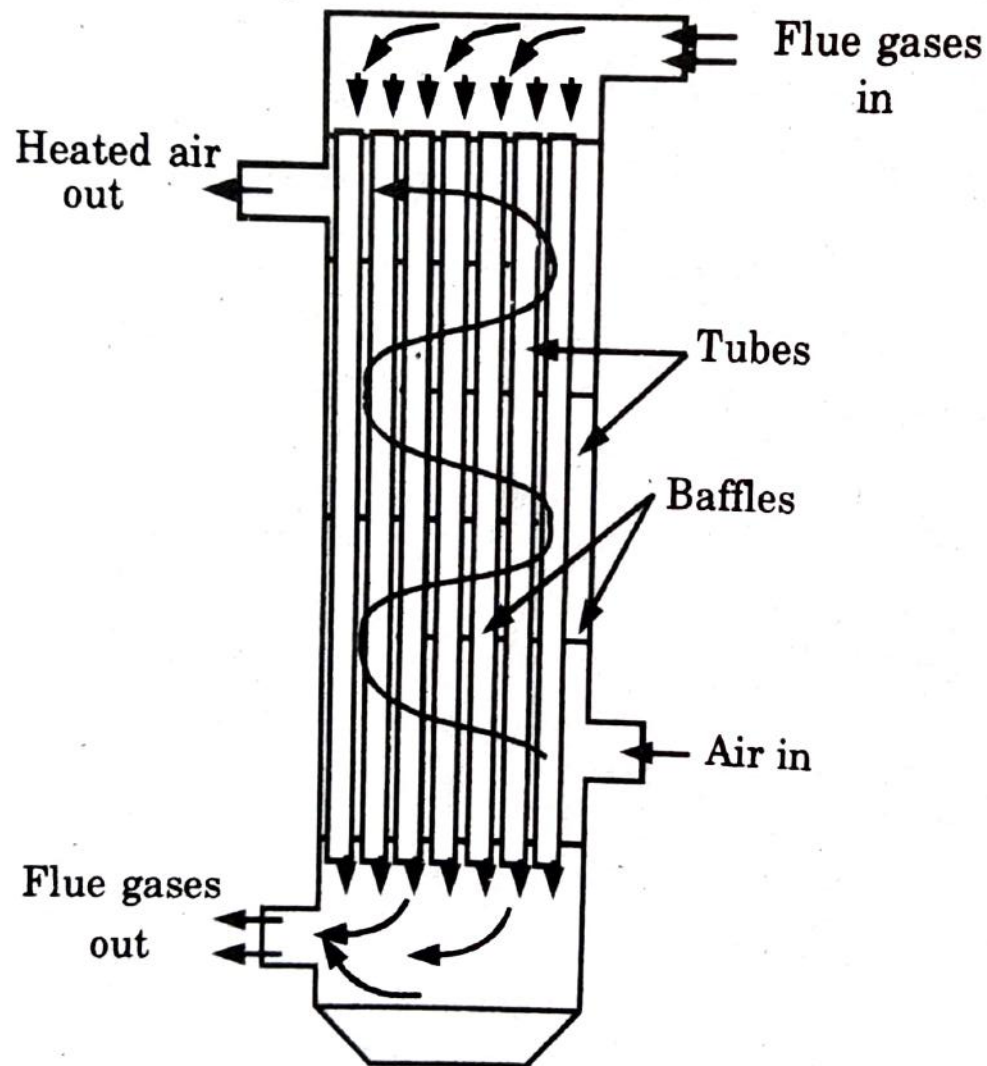

Fig. 3.11.2. Air preheater.
1. An air preheater is shown in the Fig. 3.11.2. Hot flue gases pass through the tubes and cold air passed over these tubes.